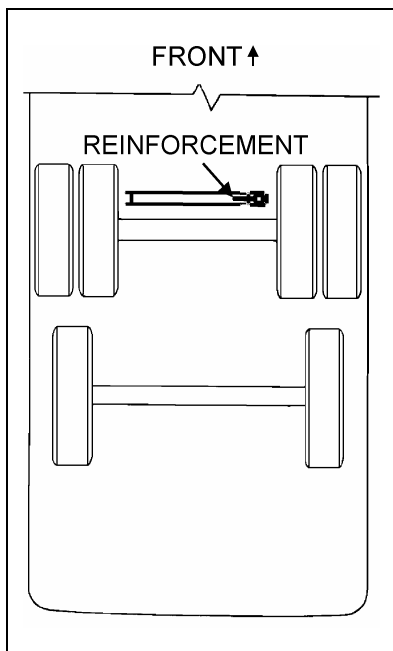

FIG. 1 TOP VIEW
1. Working underneath vehicle in the area located at center in front of differential, carefully check if there is a crack on the differential cross-member reinforcement (refer to figures 1 and 2). In such a case, grind cracked area to bare metal then fill crack with welding.